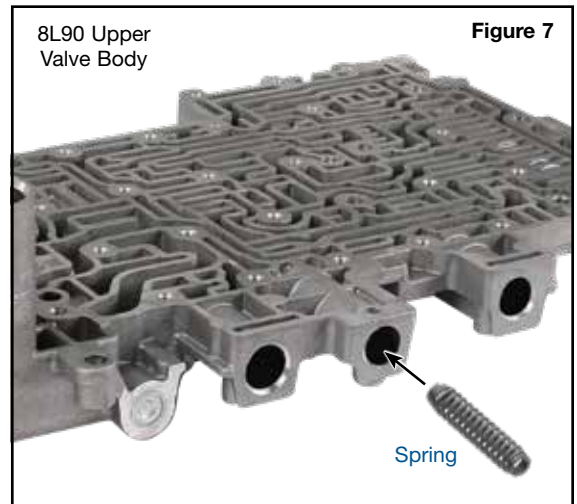

Figure 7
Step 10 Install Pressure Relief Ball Valve Spring (Figure 7)